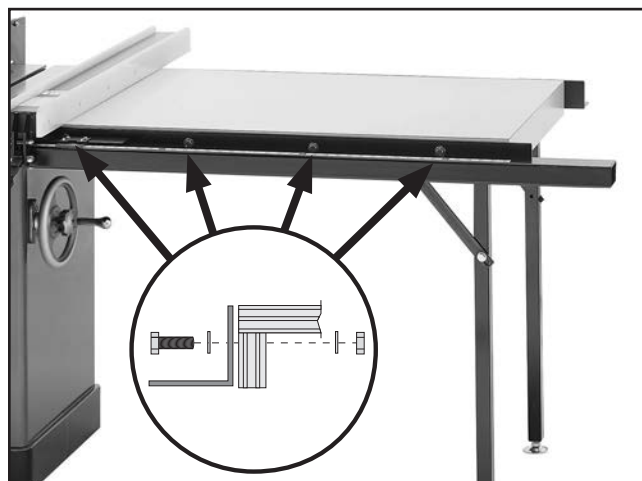

Figure 24. Extension table installed.
1. With the help of another person to hold the extension table, use the (8) $\frac{3}{8}$ "-16 x $1\frac{3}{4}$ " hex bolts, (16) $\frac{3}{8}$ " flat washers, and (8) $\frac{3}{8}$ " hex nuts to secure the extension table to the rails, as shown in **Figure 24**.